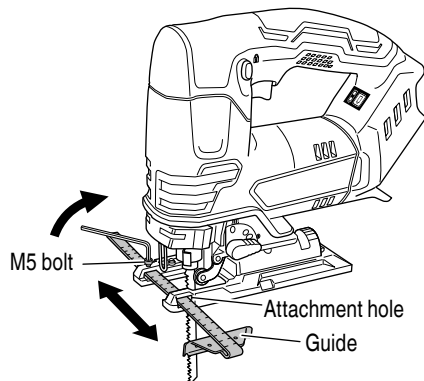

Fig. 22
- (3) Attach the guide by passing it through the attachment hole on the base and tighten the M5 bolt. (Fig. 22)